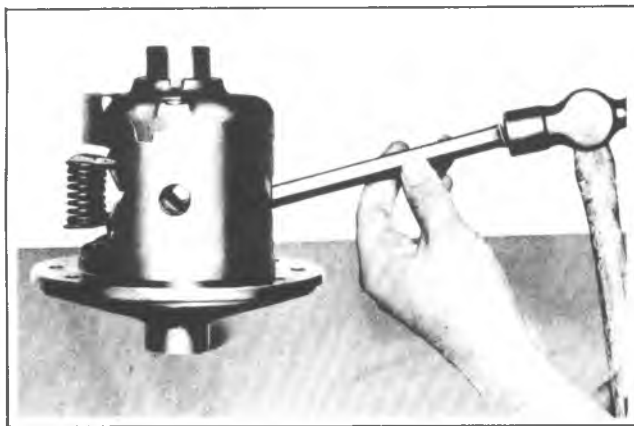
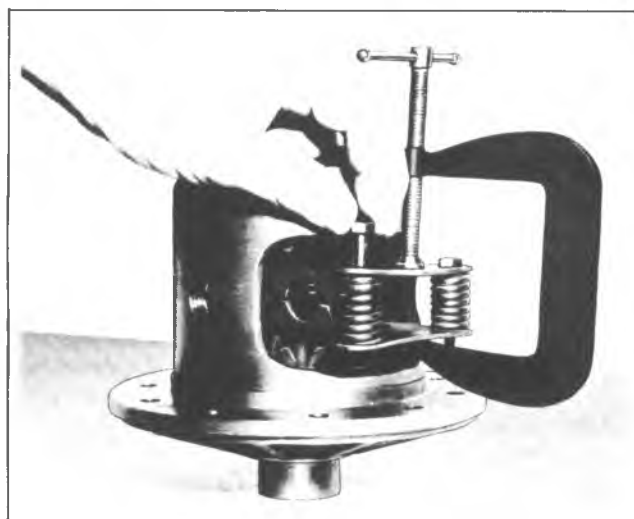

Fig. 2D—Removing Preload Spring Pack (Typical)
Fig. 3D—Installing Bolts to Retain Springs
2. **Remove the preload spring retainer and springs by tapping on the spring retainer through the observation hole in the case. See figure 2D. Drive the spring retainer from the case sufficiently to allow insertion of a 1/4 inch bolt in each of the two front springs. Secure each bolt with a nut as in figure 3D.**